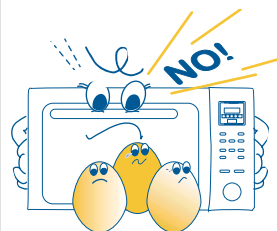

fig. 11
- 9) **Do not cook eggs in their shells (fig. 11):** the pressure which builds up on the inside would cause the egg to explode, even after cooking has finished. Do not heat up eggs which have already been cooked, unless they are scrambled.